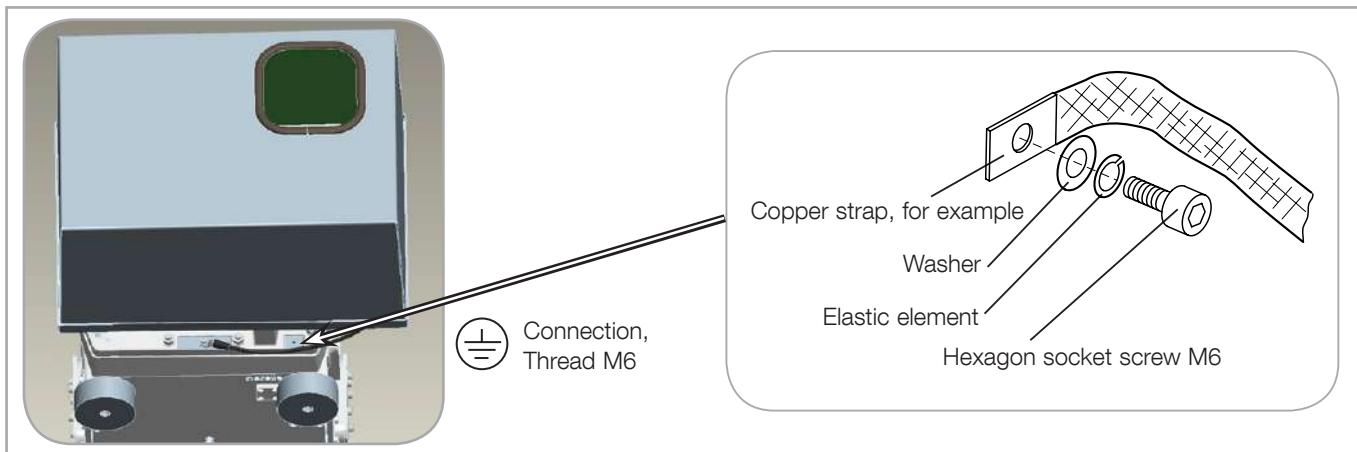

Fig. 3.15 Establishing the potential equalisation at the pump casing
- Keep the ground wires as short as possible. **The frequency converter produces leakage currents** (typically less than 10 mA). In the case of unbalanced mains power supplies, the leakage current may exceed 10 mA. In this case the protective ground conductor must exhibit a cross-section of at least 10 mm2. Or connect a further protective ground conductor having at least the same cross-section as the connection cable. A connection point is provided, see Fig. 3.15.
Connect the potential equalisation conductor as depicted in Fig. 3.15.